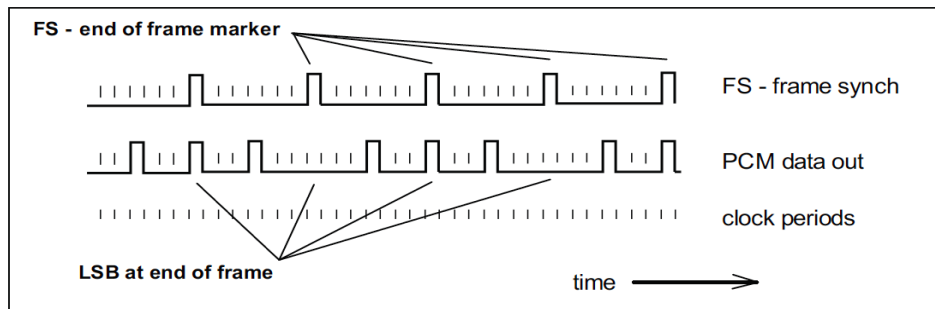

Figure 3.4: 5 frames of 4-bit PCM output for zero amplitude input
9. your display should be similar to that of Fig. 3.4 below knowing: